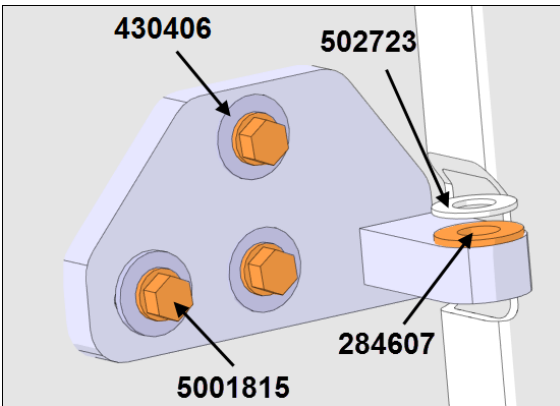

FIGURE 20: LOWER HINGE COMPONENTS
- New M6 bolts, nuts, locks & washers (**5001815, 502854, 502570 & 430406**) are used to secure the lower hinge at the vehicle structure point (Figure 20).